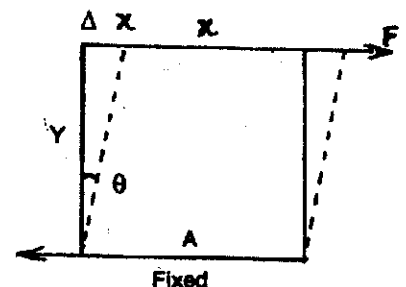

Fig.8.8: Shearing strain
- (iii) **Shearing strain** : When the deforming forces are tangential (fig. 8.8) then the **shearing strain is given by the angle  $\theta$  through which a line perpendicular to the fixed plane is turned after deformation**.